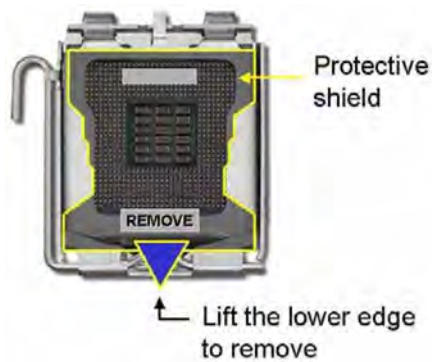

Figure 4-2: Remove the CPU Socket Protective Shield
- Step 1: Remove the protective cover.** Remove the black protective cover by prying it off the load plate. To remove the protective cover, locate the “REMOVE” sign and use the fingernail to pry the protective cover off. (See **Figure 4-2**)